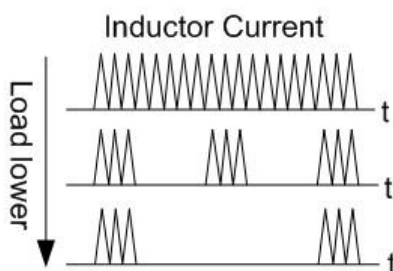

Figure 1. Inductor Current at Various Loads
In order to minimize the power loss of a boost converter under light or no load conditions, designers usually use the Pulse Frequency Modulation (PFM) to lower the switching frequency and hence the associated switching losses. In PFM more and more switching pulses are skipped as the load is getting lower, as shown in Figure 1. Obviously these scattered switching pulse trains carry the subharmonic frequency that varies with load. Depending on the time duration of the dead band between the switching pulse trains, the subharmonics may appear as the Radio Frequency (RF) noise, or audible noise. The RF noise can cause unwanted interferences with the performance of the entire system, and the audible noise is not only unpleasant but also risks compromising the mechanical integrity of the system. Therefore, these noise issues should be resolved.